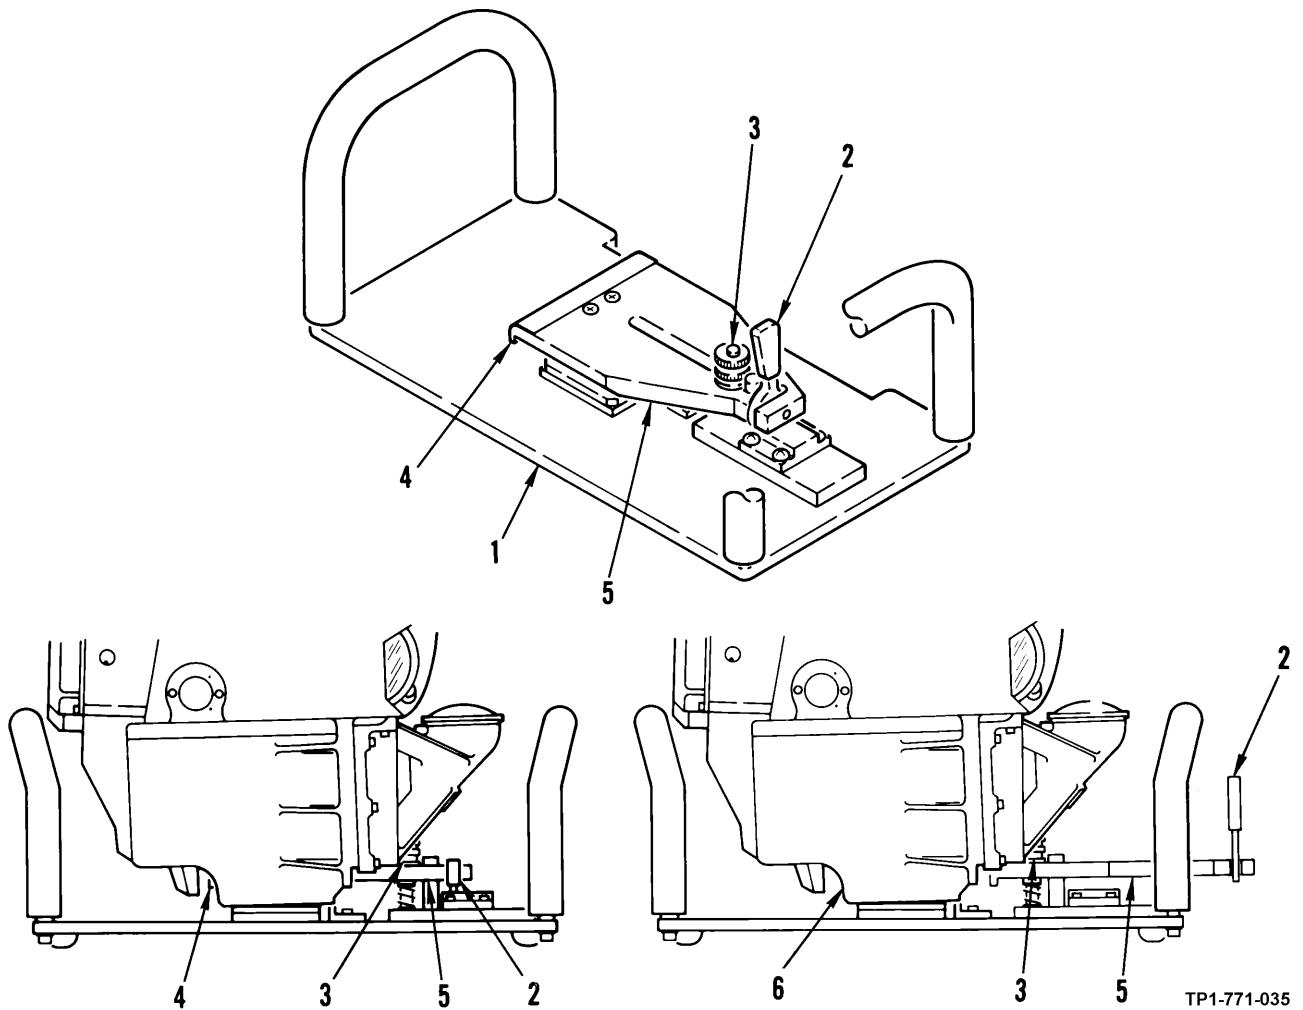

Figure 2-27. Handling Fixture Removal
- (1) Hold fixture (1, figure 2-27) in place and open locking lever (2) by lifting it up.
- (2) Loosen thumb locknuts (3).
- (3) Release clamp pad (4) by pressing down and holding clamp arm (5) near locking lever.
- (4) Slide clamp arm toward locking lever as far as it will go.
- (5) Carefully remove handling fixture from TADS NSA casting (6).